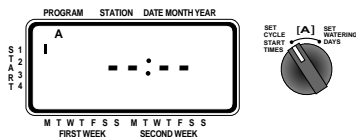

FIGURE 5: LCD Display with Start Time
- Turn the rotary selector to the **CYCLE START TIMES** position in the program that you want to set up. The display will show an **A** or **B** depending on which program you have selected. The display will show **— : —** and a blinking cursor will appear in **START 1** location [See Figure 5].